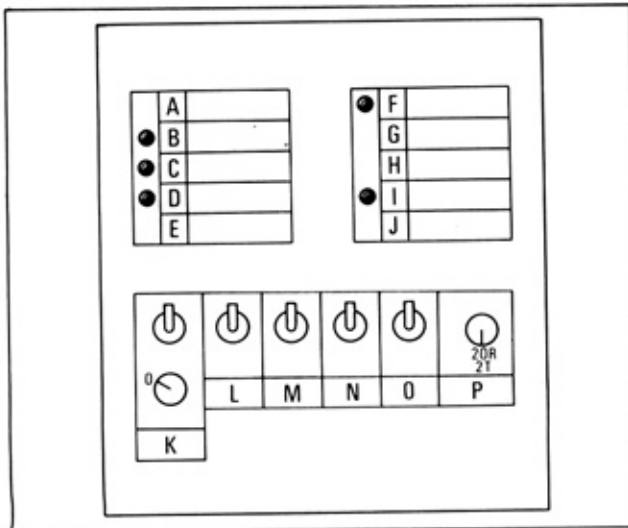

Fig. 18-124 2T-C Engine
- After warming up, the checker lights should turn on as shown in Fig. 18-124 to -128.
- (1) At the condition shown in Fig. 18-124, and with the engine idling, the choke opener link should be in returned state.
- (2) Tilt the checker switch "K" to the "SIMULATION" side, and with dial "K" set the speed to 30 mph. The choke opener valve should then be pulled in. If defective, check the diaphragm and link. If these are in normal condition, replace the vacuum switching valve (VSV).